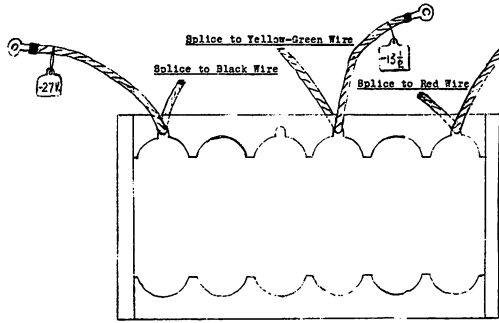

FIG. 1
(d) Splice approximately 10" of #18 Belden varnished cambric motor lead wire (Engineer's kit) to the end of each of the wires disconnected from the battery box in operation (a) above, tape the soldered joints, and pass the wires through the small insulating bushings in the amplifier panel and connect them to the soldered terminals in the chassis in the battery box from which the soldered washers referred to in (c) were removed. In the several 6 type Amplifiers referred to, the wires should be threaded as illustrated in Figs. 1, 2 and 3, respectively.
(f) Pull the Belden motor lead wire extensions tight, and cut off, leaving approximately 3" of slack for easy connection to the #781 Battery terminals. Solder to the end of each wire (see Figs. 1, 2 & 3) one of the special tinned locking terminal lugs supplied for this purpose.
- (a) Unsolder the external leads from the amplifier terminals, and the PEG anode lead from the spring terminal and remove the Amplifier R5 (2W) by E-40285 Resistor. In reconnecting the leads, leave the brown wire disconnected and tape the end after cutting off the lead to the bottom of the cable form as shown in figure 1.